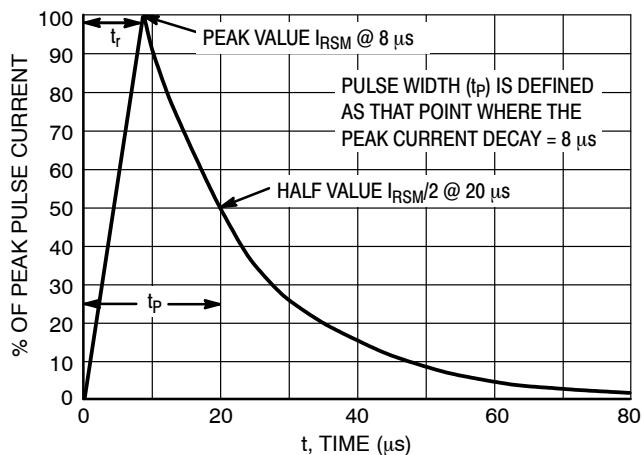
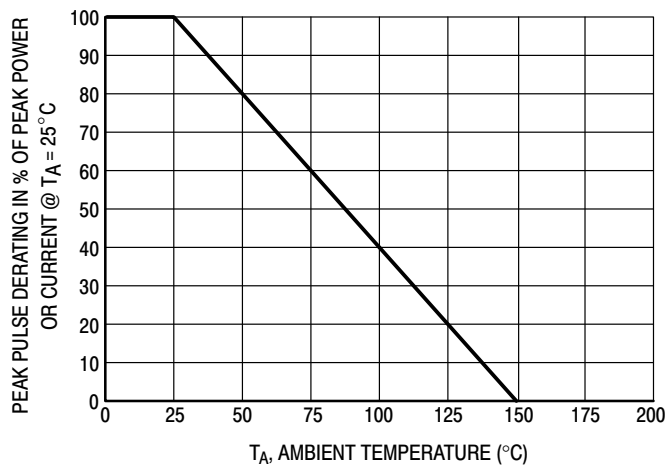

Figure 5. 8 x 20 μs Pulse Waveform
Figure 10. Pulse Derating Curve
1. Non-repetitive current per Figure 5. Derate per Figure 10.